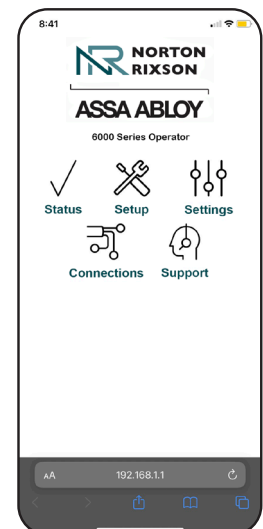

Figure 21
- The 6000 Series homepage will be displayed. (Figure 21)